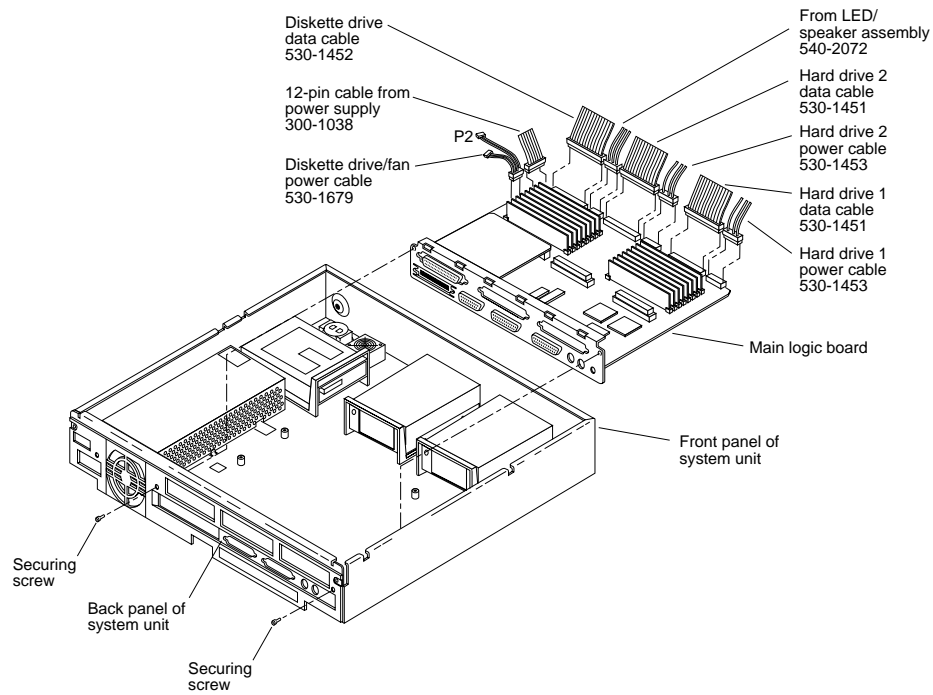

Figure 4-26 Removing and Replacing the Main Logic Board
16. **Remove the two Phillips head screws that secure the board to the back panel (see Figure 4-26).**
- 1. Insert the connectors on the rear of the replacement board into the back panel as shown in Figure 4-26.**
- 3. Install two Phillips head screws to secure the main logic board to the rear of the chassis (see Figure 4-26).**
- 6. Connect the 34-line diskette drive data and power cables to the connectors on the main logic board (see Figure 4-26).**